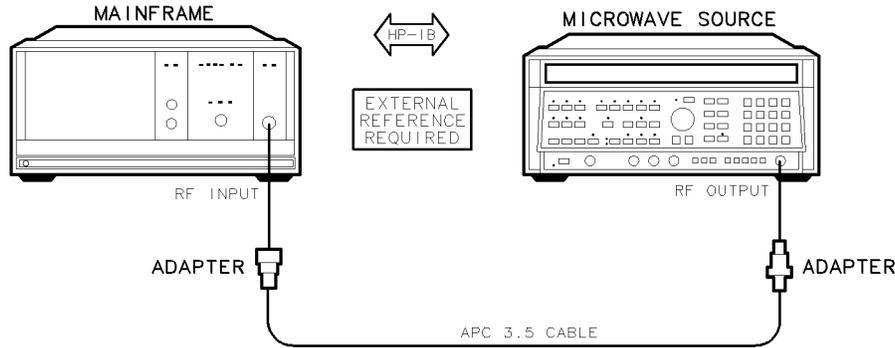

Figure 7-14. LO Frequency and Span Accuracy (Span >10 MHz) Test Setup
1. Connect the HP 8340A/B synthesized sweeper’s RF OUTPUT to the DUT’s RF INPUT using the adapter as shown in Figure 7-14. Refer to Figure 7-1 for system rear panel connections.